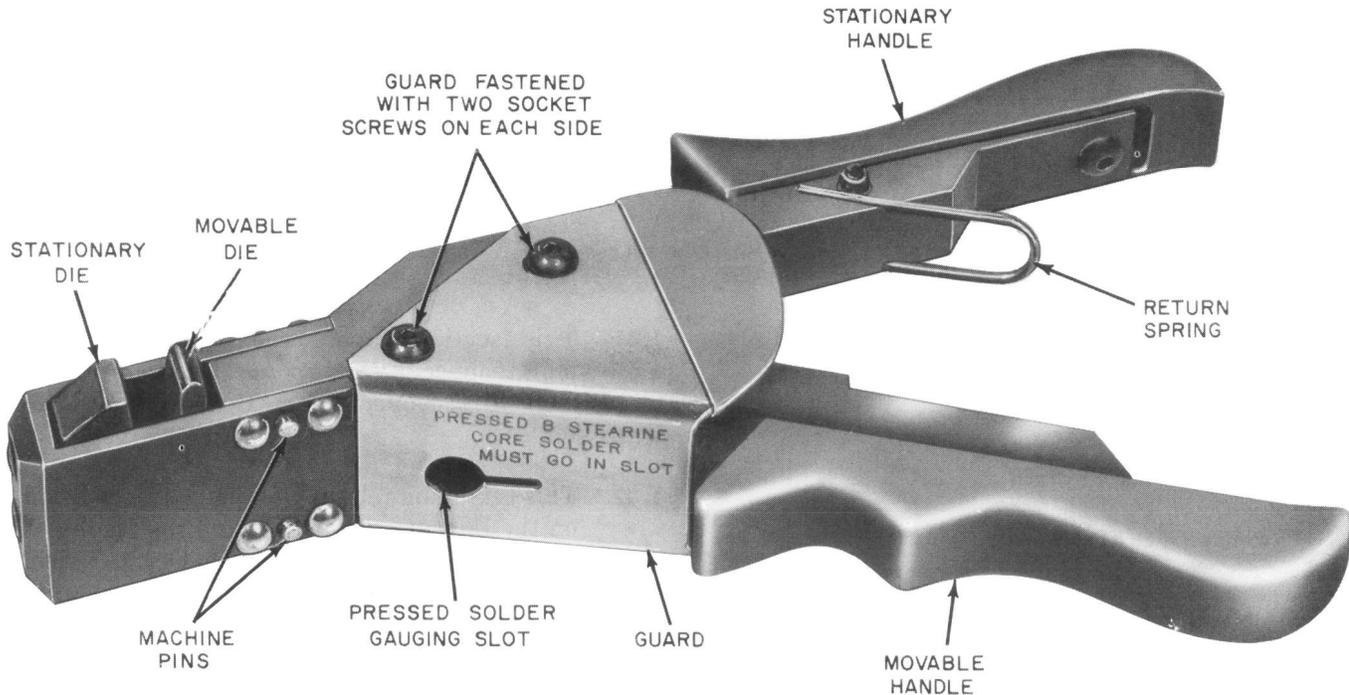

Fig. 1—D Connector Presser
2.01 The D connector presser (Fig. 1) is a hand tool which is 7 inches long and weighs 15 ounces. It consists of a movable die and a stationary die enclosed in the head, a movable handle and a stationary handle connected with a pivot pin, and a ratchet-pawl mechanism. The pivot pin and ratchet-pawl mechanism are covered by a guard secured with four socket-head screws.